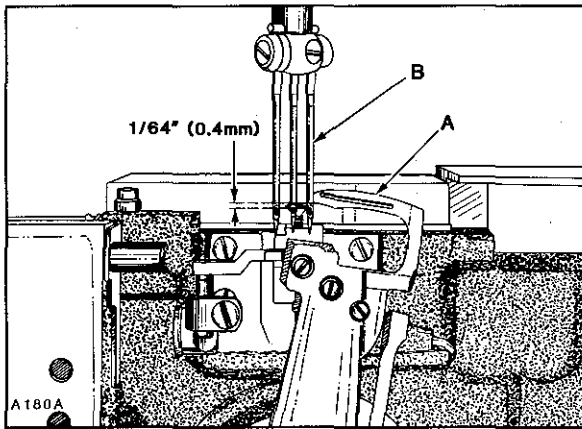
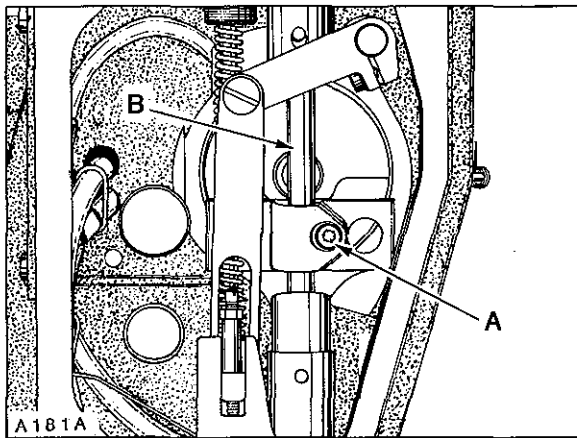

Fig.11
Fig.12
Turn handwheel in operating direction until POINT of RIGHT looper (A, Fig. 11) is even with the LEFT side of RIGHT needle (B). TOP of needle eye should be 1/64 inch (.4mm) below the undersurface of looper blade, as shown in Figure 11. Adjustment can be made by loosening screw (A, Fig. 12) and move needle bar (B) up or down as required. TORQUE screw (A).